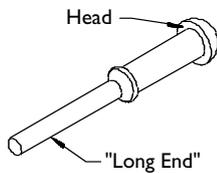

FIGURE 16 Pull Seal
2. Obtain a rubber pull seal from the hardware kit (Part Number 315 2569 001). An extra pull seal is also provided. See FIGURE 16.